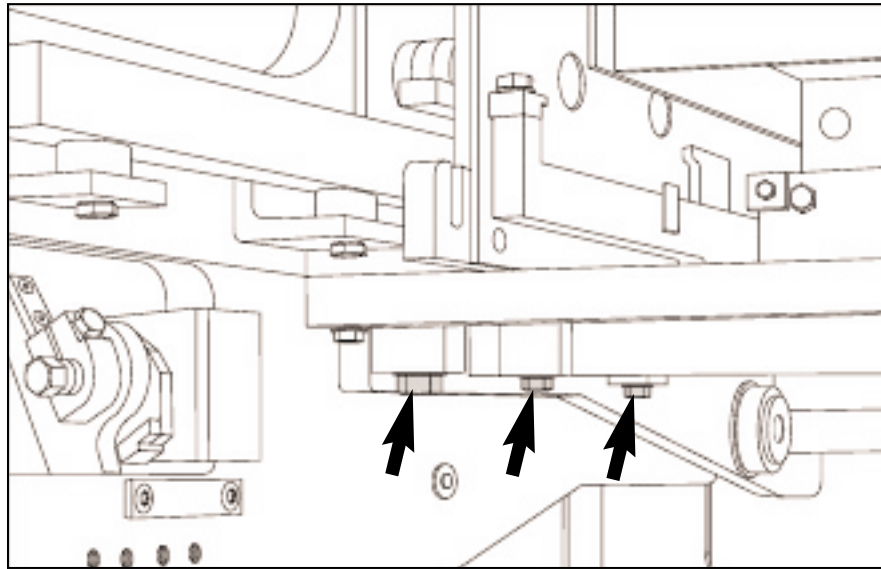

Figure 5.26 APRON PLATE ADJUSTMENT (FORWARD TO BACK).
- 5.6.3 If necessary, adjust apron plate. Loosen bolts and move forward or back (see figure 5.26).